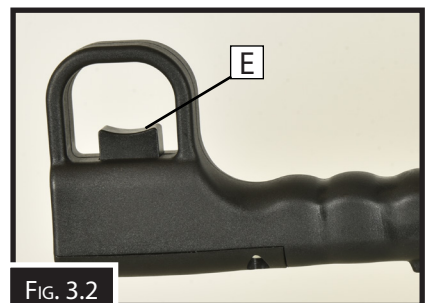

FIG. 3.2
E. Trigger Switch: Turns the motor ON, rotating the blade and also activating the coolant pump. (Fig. 3.2)